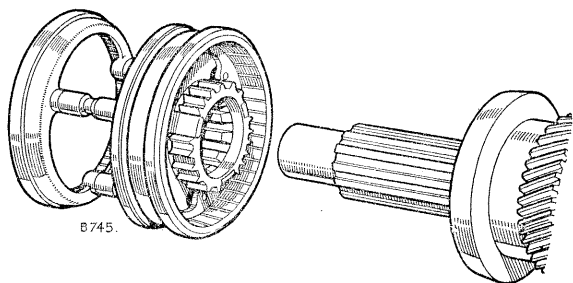

Fig. C-13—Fitting synchronising clutch assembly
28. Check and renew the synchronising clutch unit detent spring, if necessary. Fit the synchronising clutch assembly over the mainshaft splines, with the recessed portion towards the 3rd speed gear (Fig. C-13).